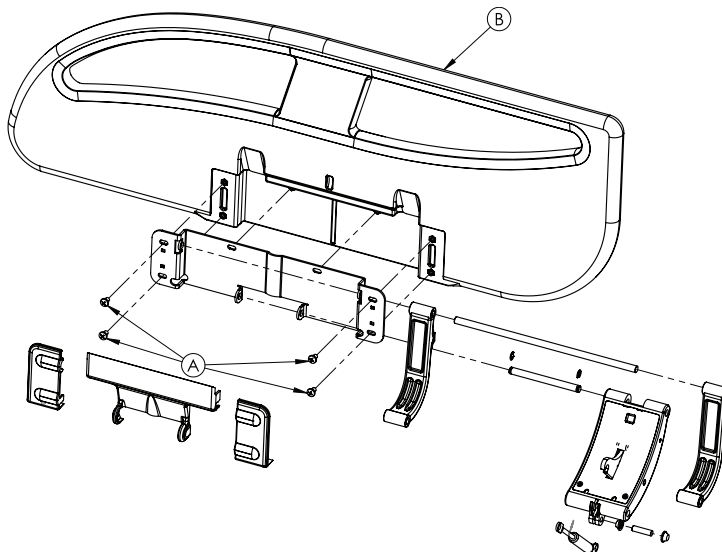

Figure 14: Head end siderail hoop
12. Using a #2 Phillips screwdriver, remove and discard the four screws (A) that secure the siderail hoop (B) to the siderail mechanism (Figure 14 on page 62).